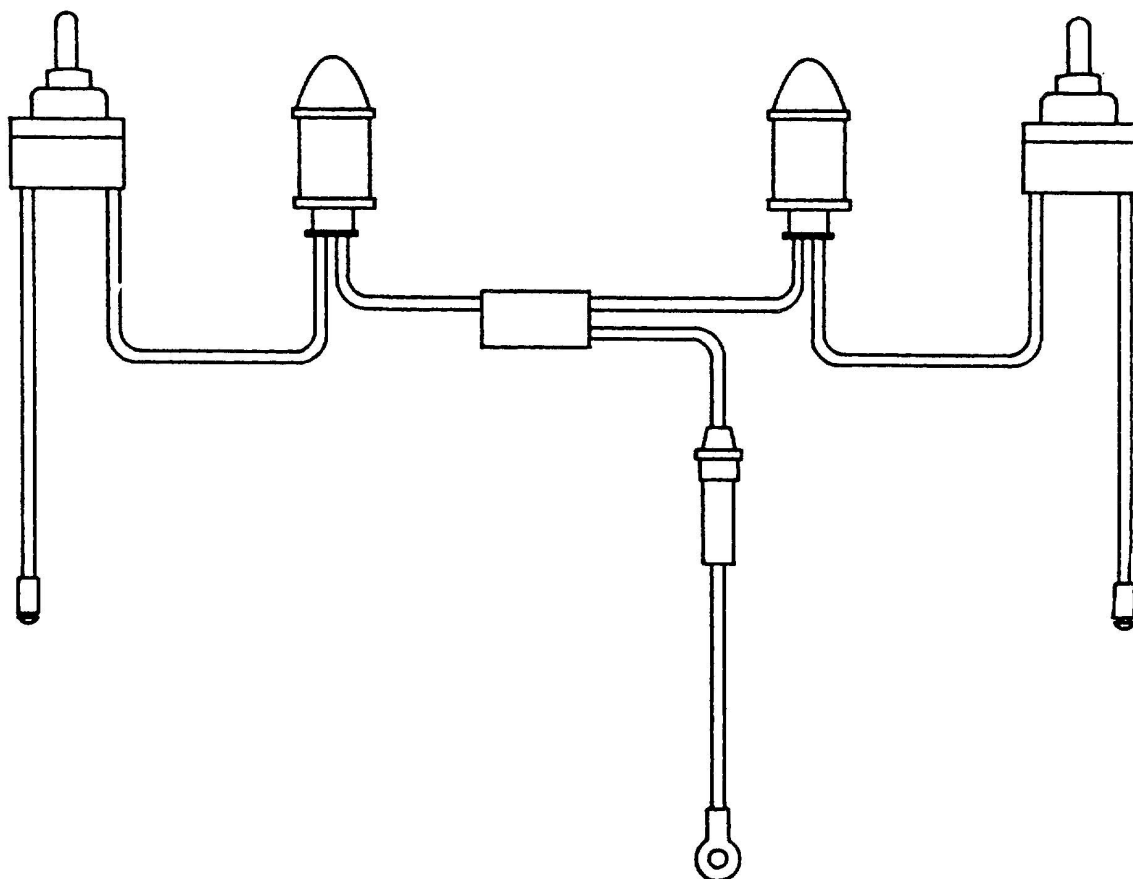

Fig 1 Unmodified earth leakage test circuit
9.3 Disconnect original fuse carrier from its position as shown in Fig 1.